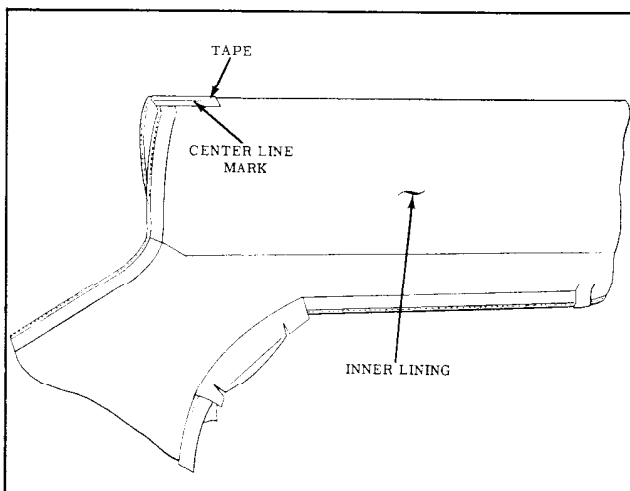

Fig. 15-101 Marking Folding Top
26. Fold new top material in half so that inner lining of top material is exposed. (Fig. 15-101) Install a 6" piece of tape on inner surface at centerline fold of new top material. (Fig. 15-101) Using a pencil, mark the approximate centerline of new top material along entire length of tape.